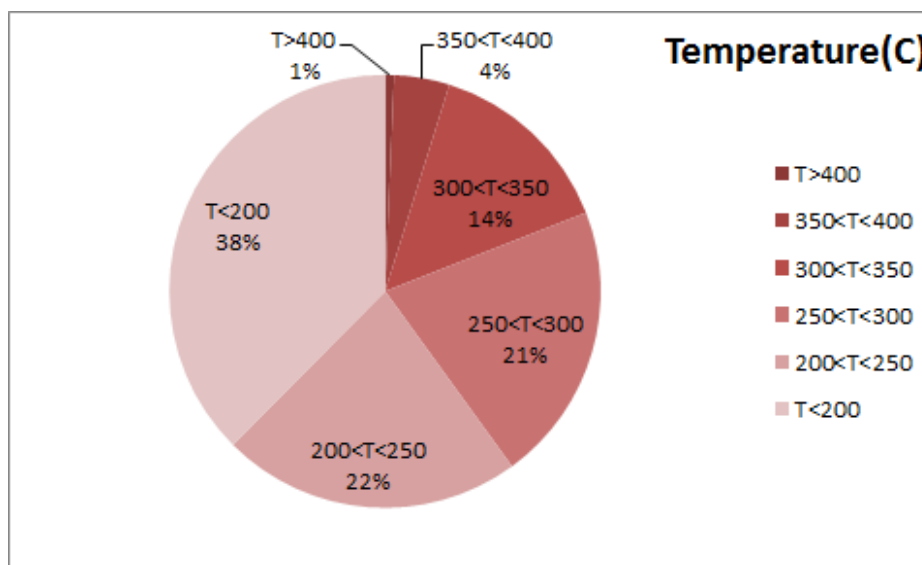

Figure 2-Temperature¹ distribution over the working hours
- Figure 2 displays flow temperature before the DPF. It can be obviously observed that only 1% of total working-time temperature is above 400°C.